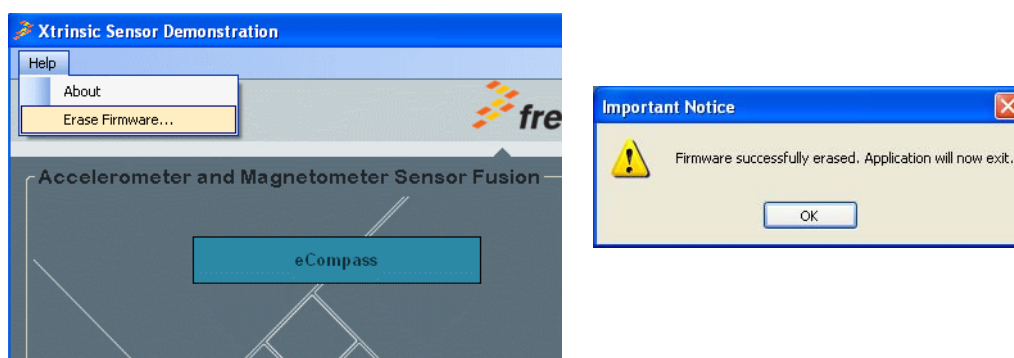

Figure 25. Help menu, Erase Firmware
1. From the Help menu in the first screen, click “Erase Firmware...” (Figure 25) and then click OK.